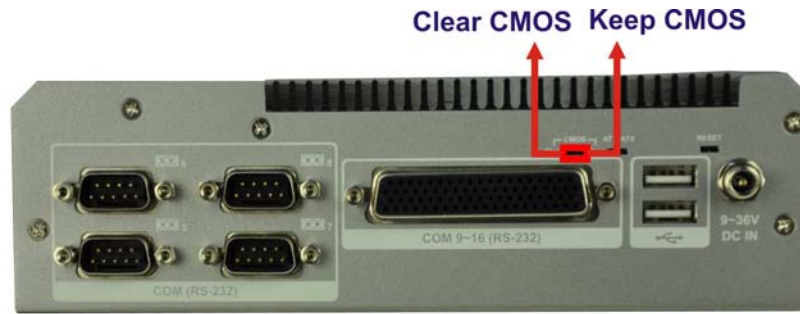

Figure 3-7: Clear CMOS Switch Location
Step 1: Locate the clear CMOS switch on the bottom panel (**Figure 3-7**).